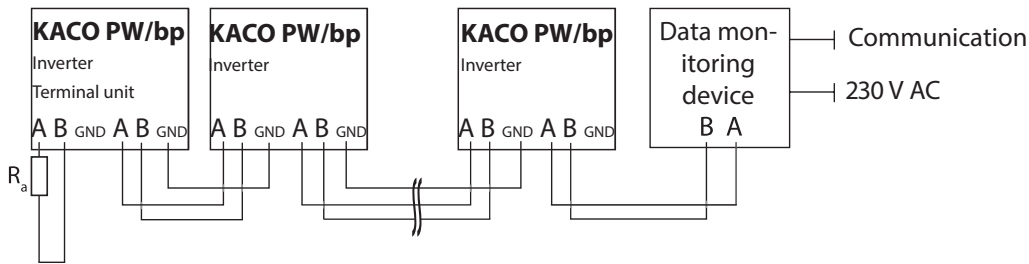

Figure 31: RS485 interface wiring diagram
- GND with GND (see Figure 31 on page 26)